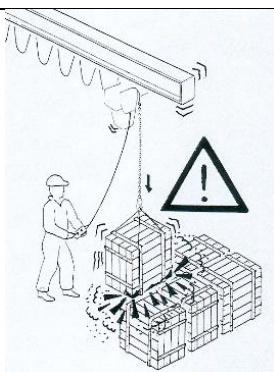

fig. 63
- **NEVER** bump into the plant structures, machines and systems with the load or arm (fig. 63).